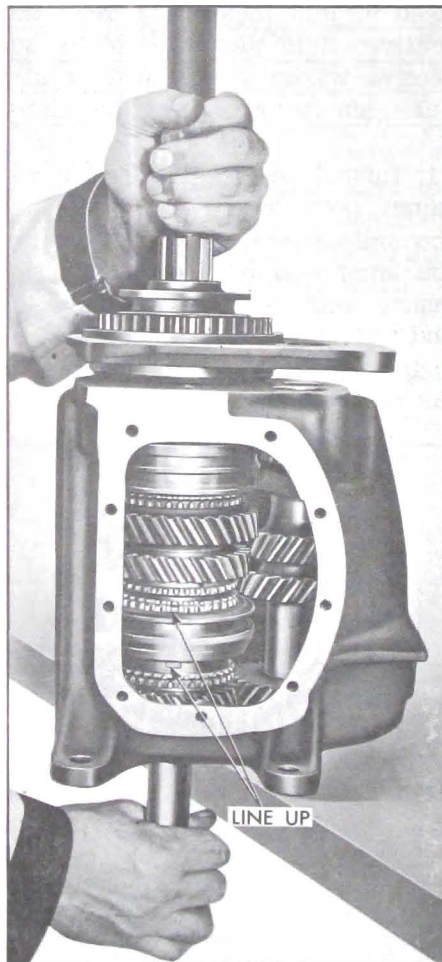

Figure 4-144—Installing Mainshaft Assembly
12. Lower the mainshaft assembly into the case, making certain that the notches on the fourth speed synchronizing ring correspond to the keys in the clutch assembly. See Figure 4-144.